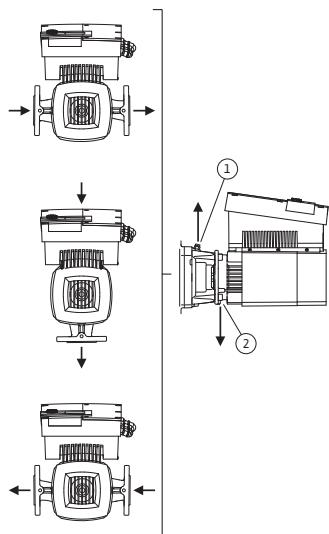

Fig. 23: Permitted installation positions with horizontal motor shaft
The permitted installation positions with horizontal motor shaft and electronic module facing up (0°) are shown in Fig. 23. The permissible installation positions with electronic module mounted on the side ($+/- 90^\circ$) are not shown. Any installation position is allowed except for “electronic module facing down” (-180°). The venting of the pump is only ensured when the air vent valve is pointing upwards (Fig. 23, Item 1).
Only in this position (0°) can condensate be directed away via an existing drilled hole, pump lantern and motor (Fig. 23, Item 2).
- With a horizontal motor shaft, the condensate hole must be positioned towards the bottom (Fig 23, Item 2). If necessary, the motor must be turned accordingly.